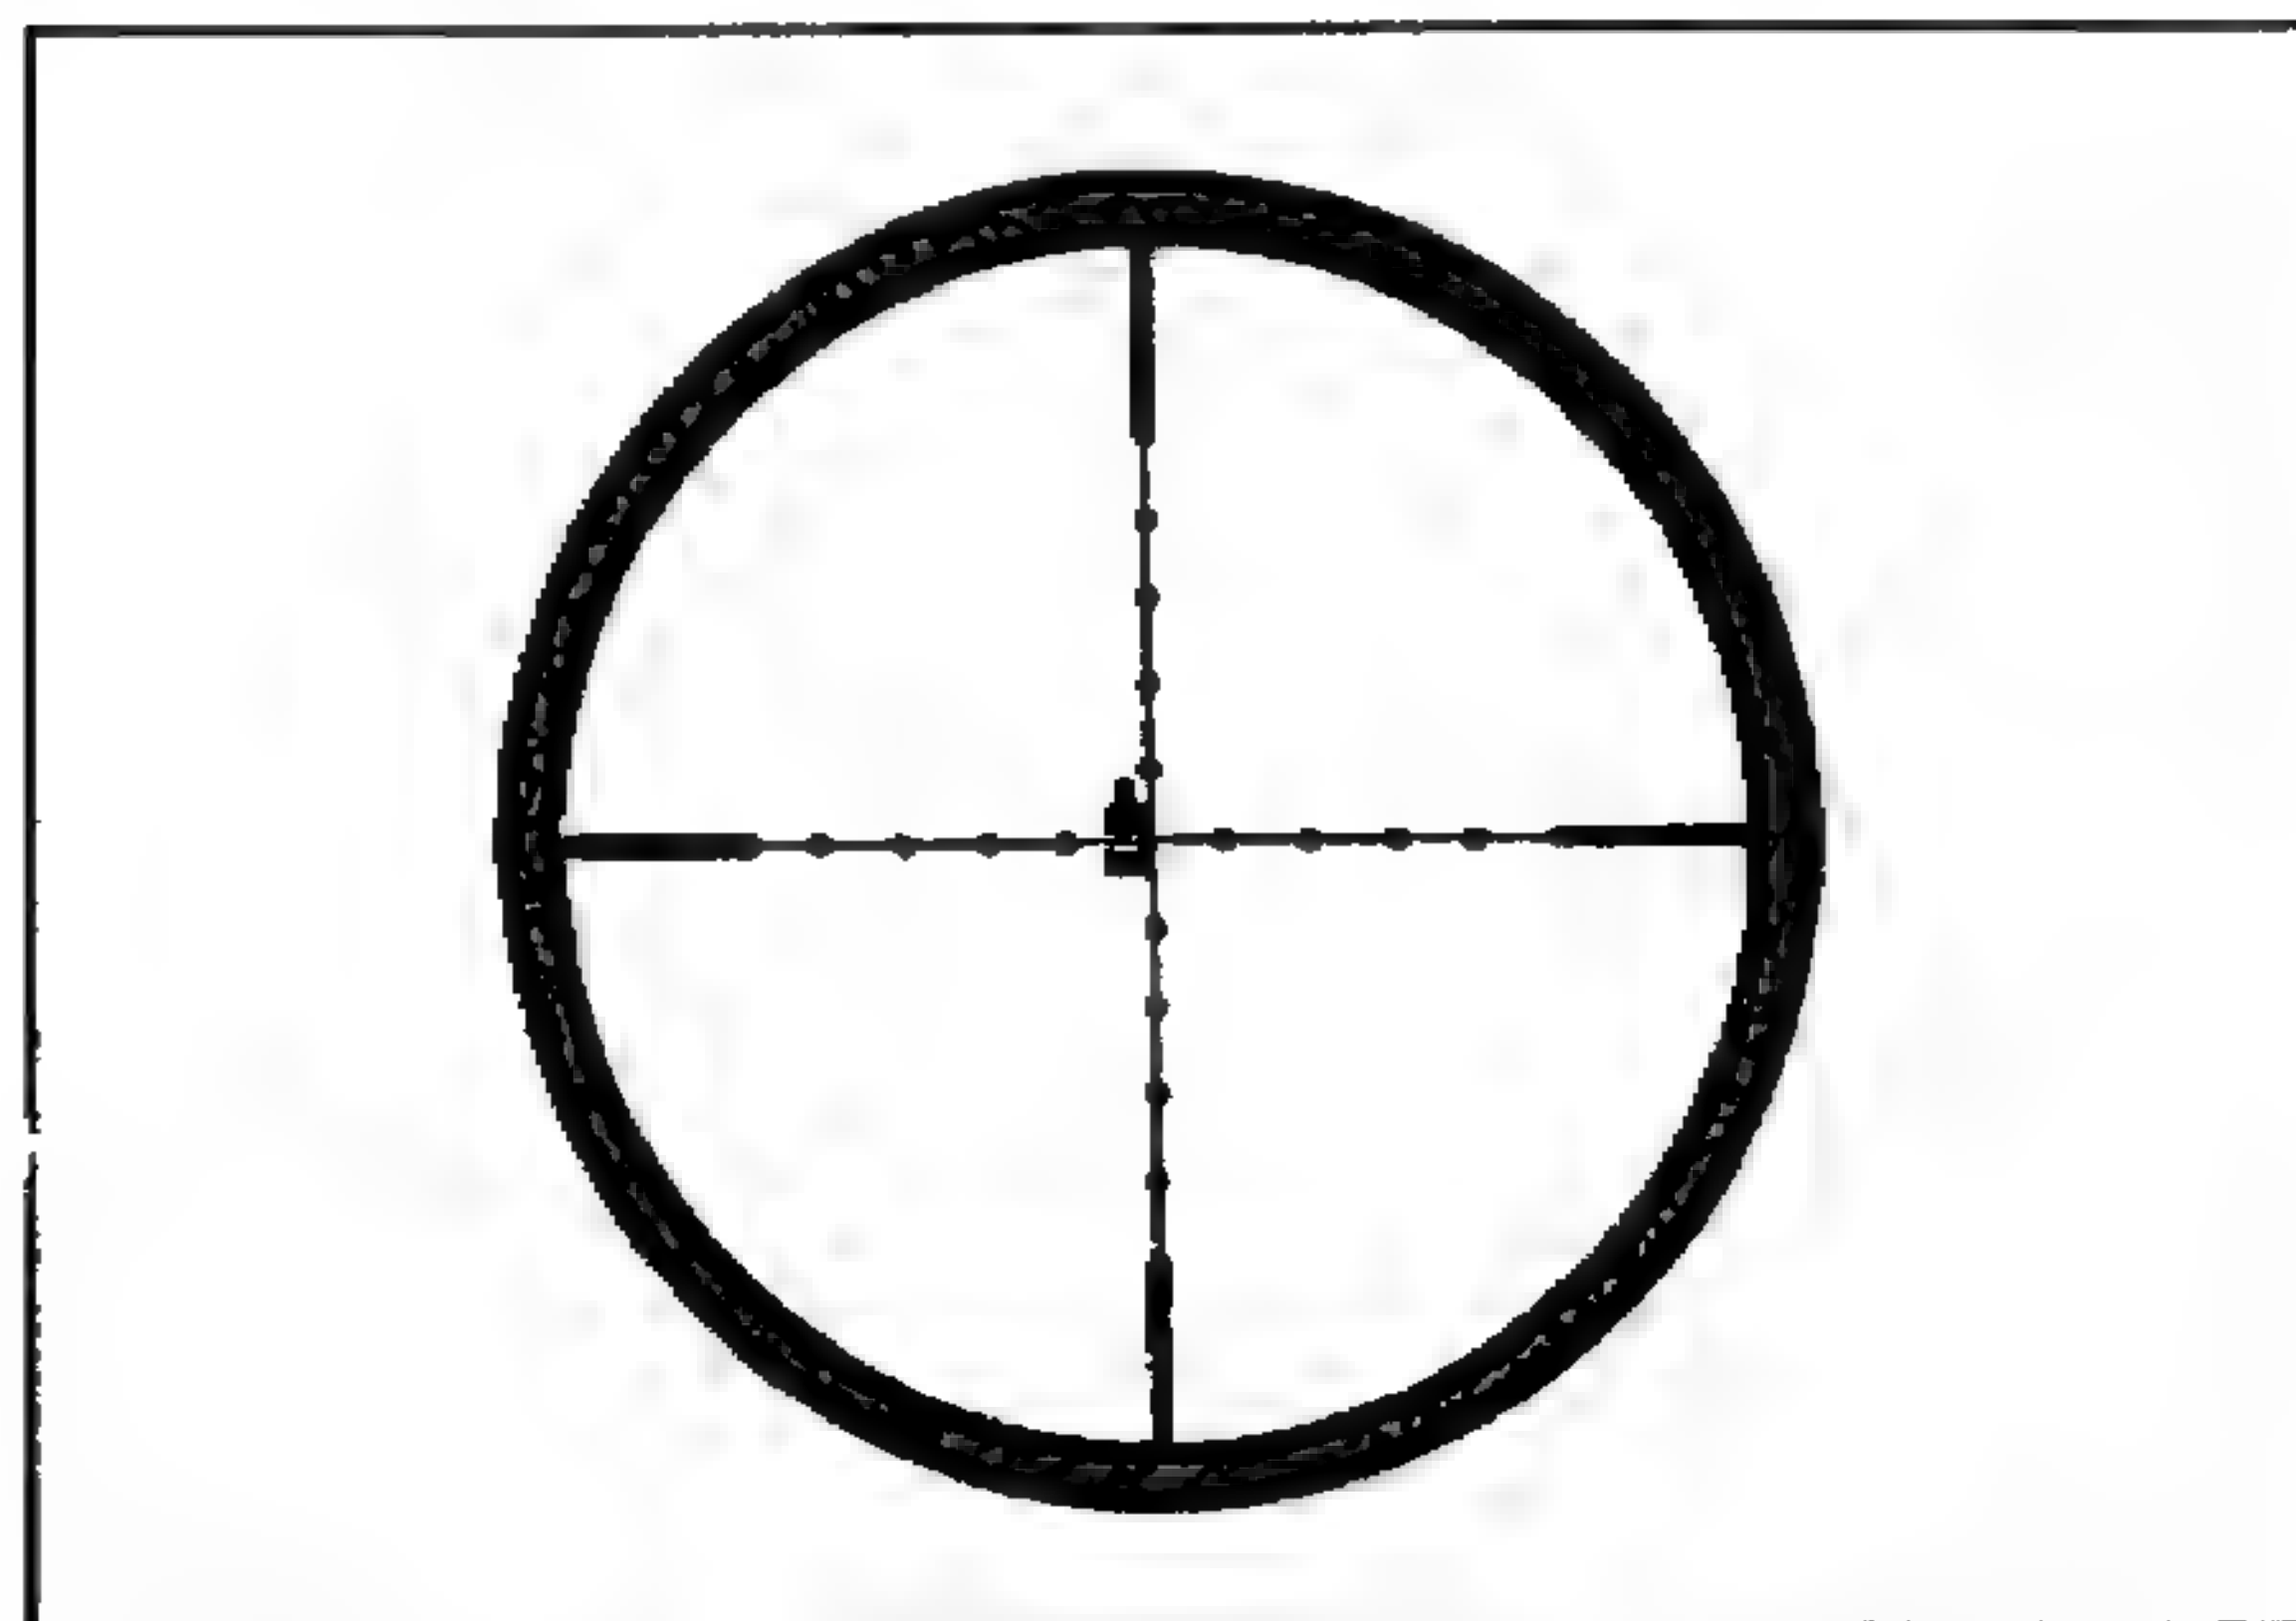

Figure 3-26. Holdoff for 7.62-mm special ball (M118).
a. When using the M3A scope, the sniper uses the horizontal mil dots on the reticle to hold off for wind. For example, if the sniper has a target at 500 meters that requires a 10-inch holdoff, he would place the target's center mass halfway between the cross hair and the first mil dot (1/2 mil) (Figure 3-26).